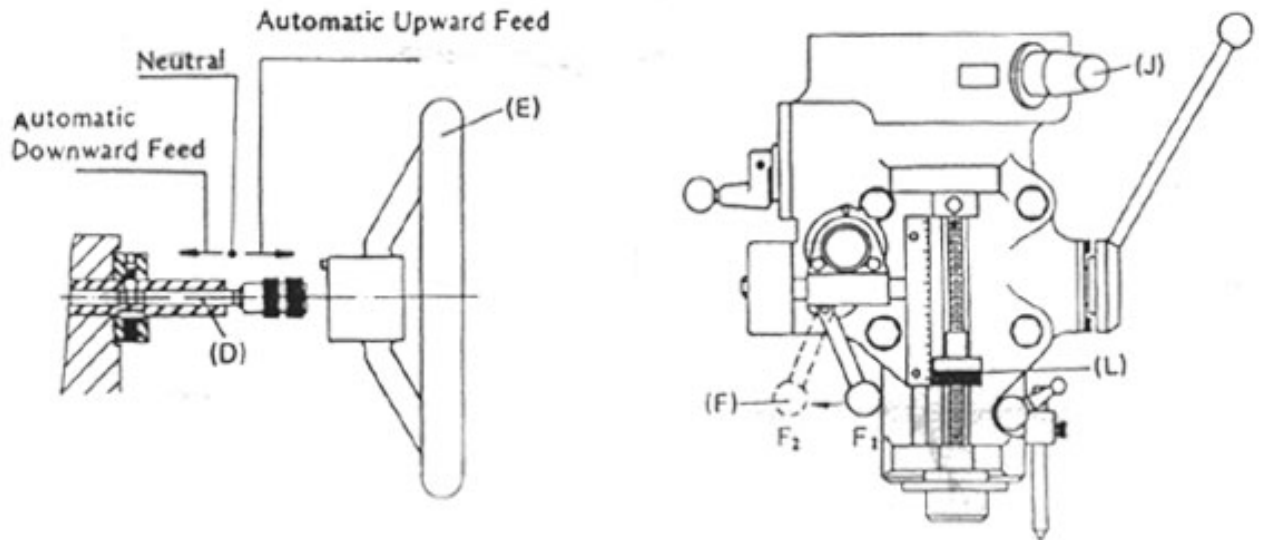

Figure 6-2
NOTE : In manual feed, the feed control handle (F) must be placed at position (F) as shown in (Figure 6-2).
To effectuate the manual micro motion feed, the power feed transmission engagement crank (J) (figure 6-2) shall be placed at "OUT" position, and feed reverse knob (d), at the neutral position.
- a. Loosen the quill lock (L) .
- d. Pull the feed control lever (F) from (F1) to (F2) position to engage the overload clutch for automatic feed mechanism.
- e. When the feed control lever knob (D) pressed inward (figure 6-2), it is for downward feed, and vice-versa. The middle position is neutral.